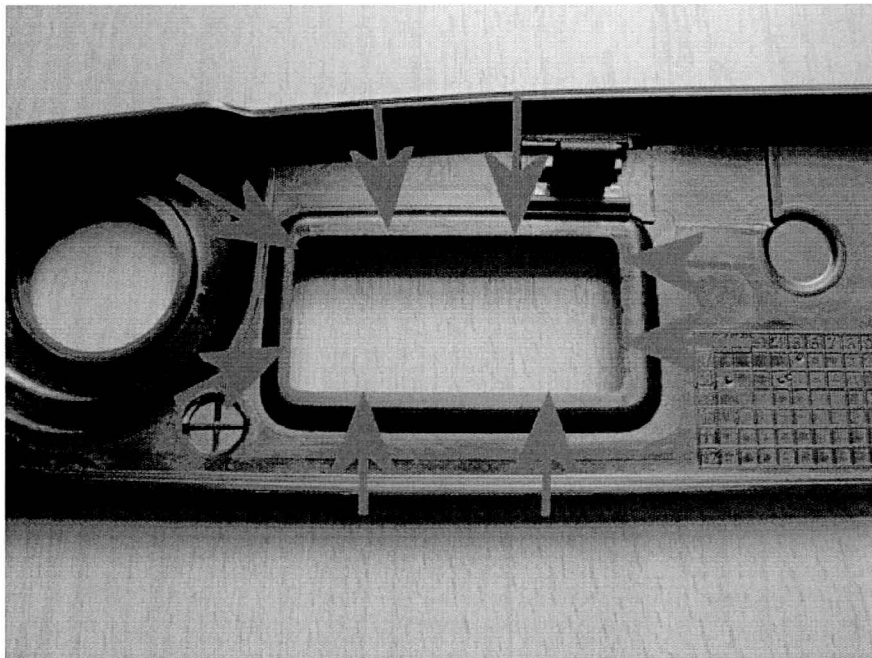

Figure 4
6.Before refitting the existing or new switch it is essential that the switch fits into the cover without any excessive resistance, should there be any burrs or jagged edges around the aperture (Figure 4) you should carefully smooth away any burrs or jagged edges using fine sandpaper taking care not to enlarge the aperture